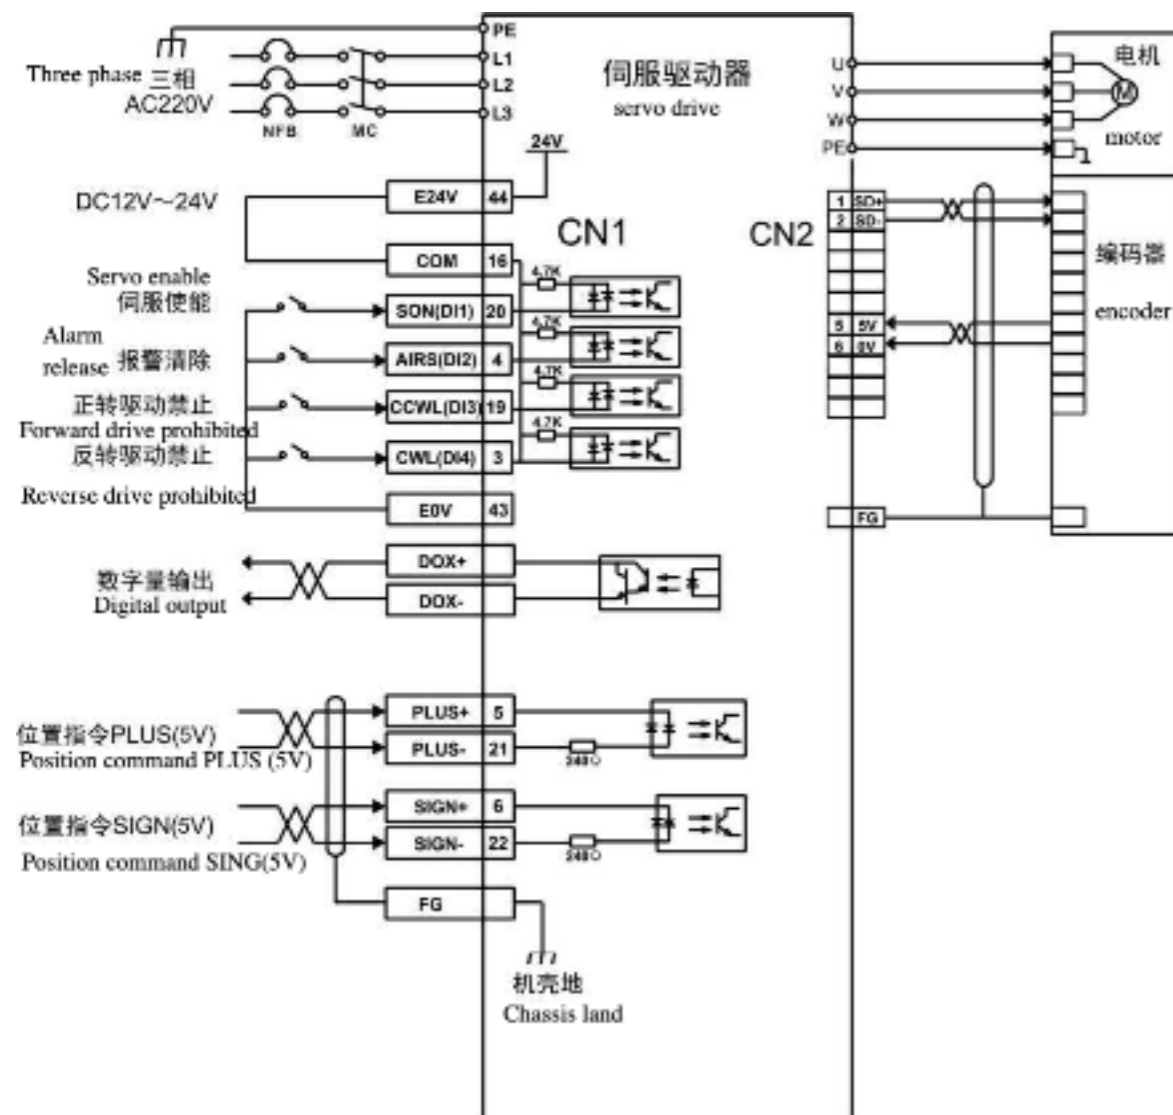

Figure 5.2 Position mode wiring diagram
- 3) Refer to Figure 5.2 for wiring instructions to connect the pulse direction input and pulse command input in the CN1 terminal as well as the required DI/DO signals, such as servo enable, alarm clear, positioning completion signal, etc.